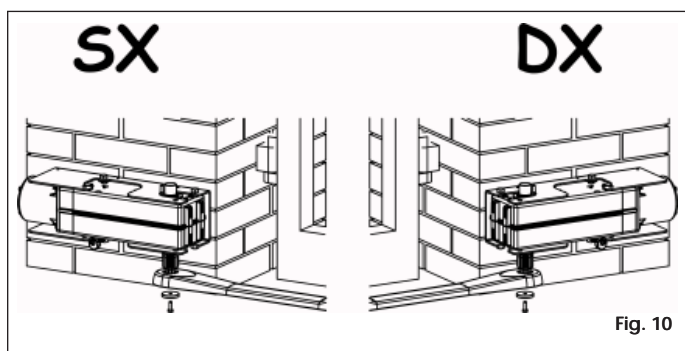

Fig. 10
- Fit the straight lever of the articulated arm on the gearmotor shaft and tighten it with the supplied screw and washer (Fig. 10).
- Fit the guards on the operator (Fig. 10).